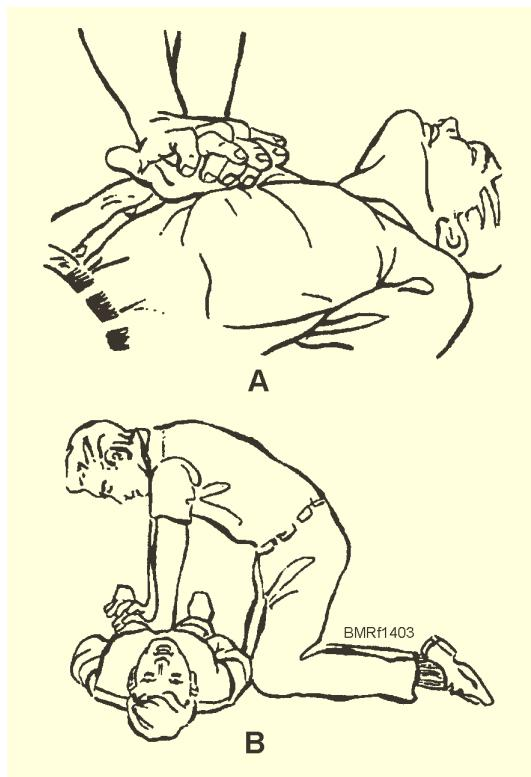

Figure 14-3.—Position for cardiac compression.
3. Place the heel of one hand directly on the sternum, and the heel of the other on top of the first. Figure 14-3, view A, shows this technique. Interlock your fingers, and **keep them off the victim's chest!**
4. Lean or rock forward with elbows locked, and apply vertical pressure to depress the sternum (adult) $1\frac{1}{2}$ to 2 inches (fig. 14-3, view B).